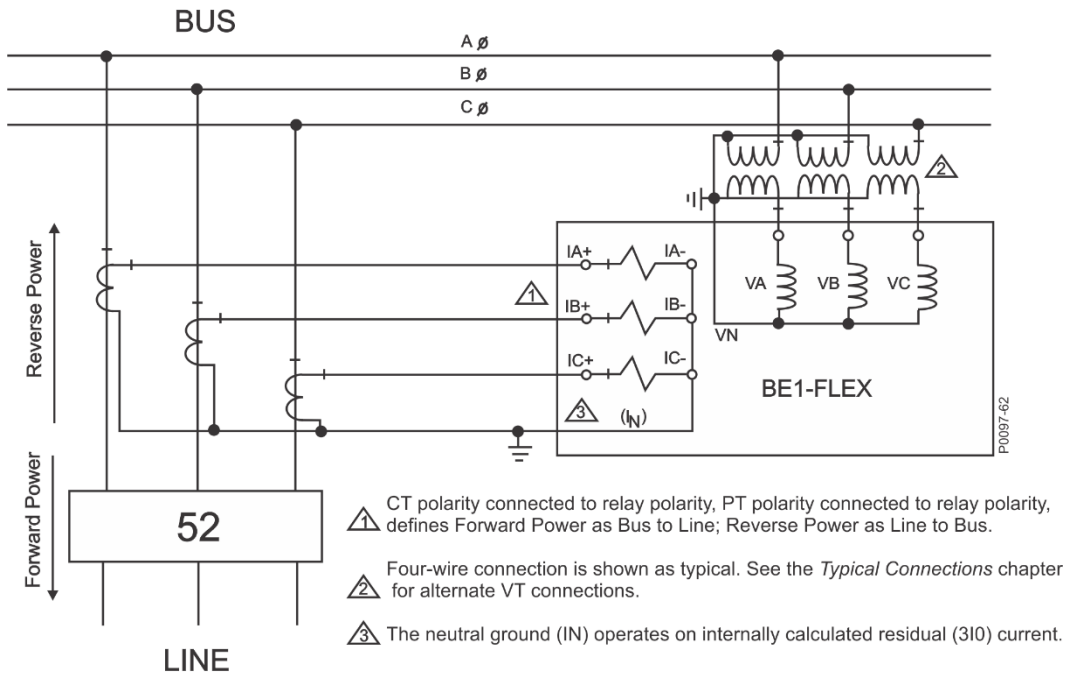
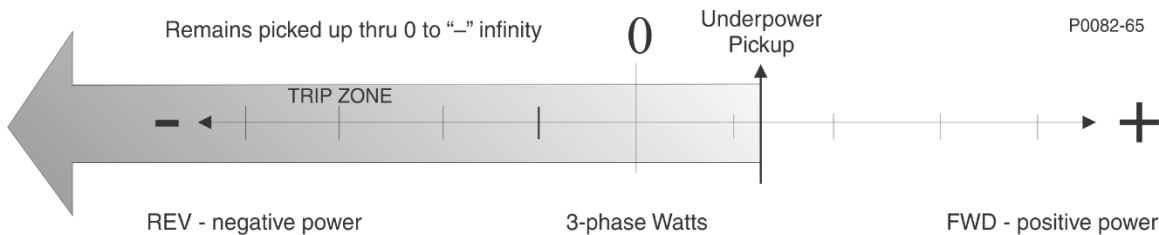

Figure 19-1. Direction of Power Flow Defined by the Polarity of Voltage and Current Connections
Figure 19-2. Forward and Reverse Pickup Values
In addition to exceeding the power pickup threshold, direction of power flow (forward or reverse) must match the directional setting for the 32 element to operate. In the BE1-FLEX, the forward and reverse directions are defined by the polarity voltage and current connections to the BE1-FLEX as shown in Figure 19-1. Based on IEEE polarity convention, forward power is defined as bus to line and reverse power is defined as line to bus.
Three-phase power pickup settings for the power elements are always positive regardless of the directional setting. However, it is useful in understanding the element response to visualize the forward direction as positive power and the reverse direction as negative power. If we think in terms of a forward and reverse scale with zero (0) in the middle as shown in Figure 19-2, positive and negative power flows relative to the forward and reverse directional setting. For example, assume an intertie application where the Area EPS (electric utility) requires the Local EPS (source of non-utility generation) to separate from the Area EPS (trip the intertie breaker) if any power flows towards the Area EPS. For illustrative purposes, assume that the BUS in Figure 19-1 is the Local EPS, 52 is the intertie breaker, and LINE is the Area EPS. Normal power flow is from the Area EPS to the Local EPS, which happens to be an industrial facility with local generation used for peak shaving.
Assuming polarity current and voltage connections as shown in Figure 19-1, forward power is defined as flowing into the Area EPS and reverse power is defined as flowing into the Local EPS. For this application, the 32 element should be set to trip for minimum underpower in the reverse direction (to the Local EPS). Therefore, the settings would be Reverse, Under, and 1 watt. To increase sensitivity, mode selection should be three of three, which requires each phase power to fall below one-third of the three-phase power setting or 0.33 watts. Assume that the normal power absorbed by the load is 4 kW in the reverse or negative direction on our scale. If load is suddenly lost at the industrial plant while the peak shaving generation is running, power may flow towards the area EPS depending on the load to generation ratio. What was a negative 4 kW passes through 0 watts on its way to some positive power level. However, in doing so, passes through the negative underpower trip threshold of Reverse, Under, 0.33 watts/phase, resulting in a 32 trip and opening of the intertie circuit breaker. From negative 0.33 to positive infinity, the 32 element remains in a picked up condition as shown in Figure 19-2. A trip time delay should be included to ensure that the 32 element does not operate for a transient power condition.